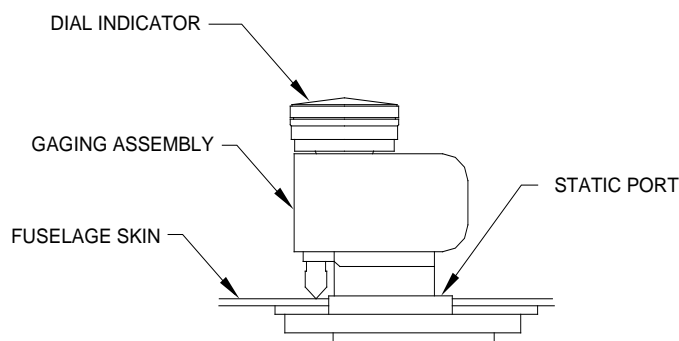

Figure 8-5, Static Port Measurement
2. Place the gauging assembly onto the static port surface as shown in Figure 8-5.